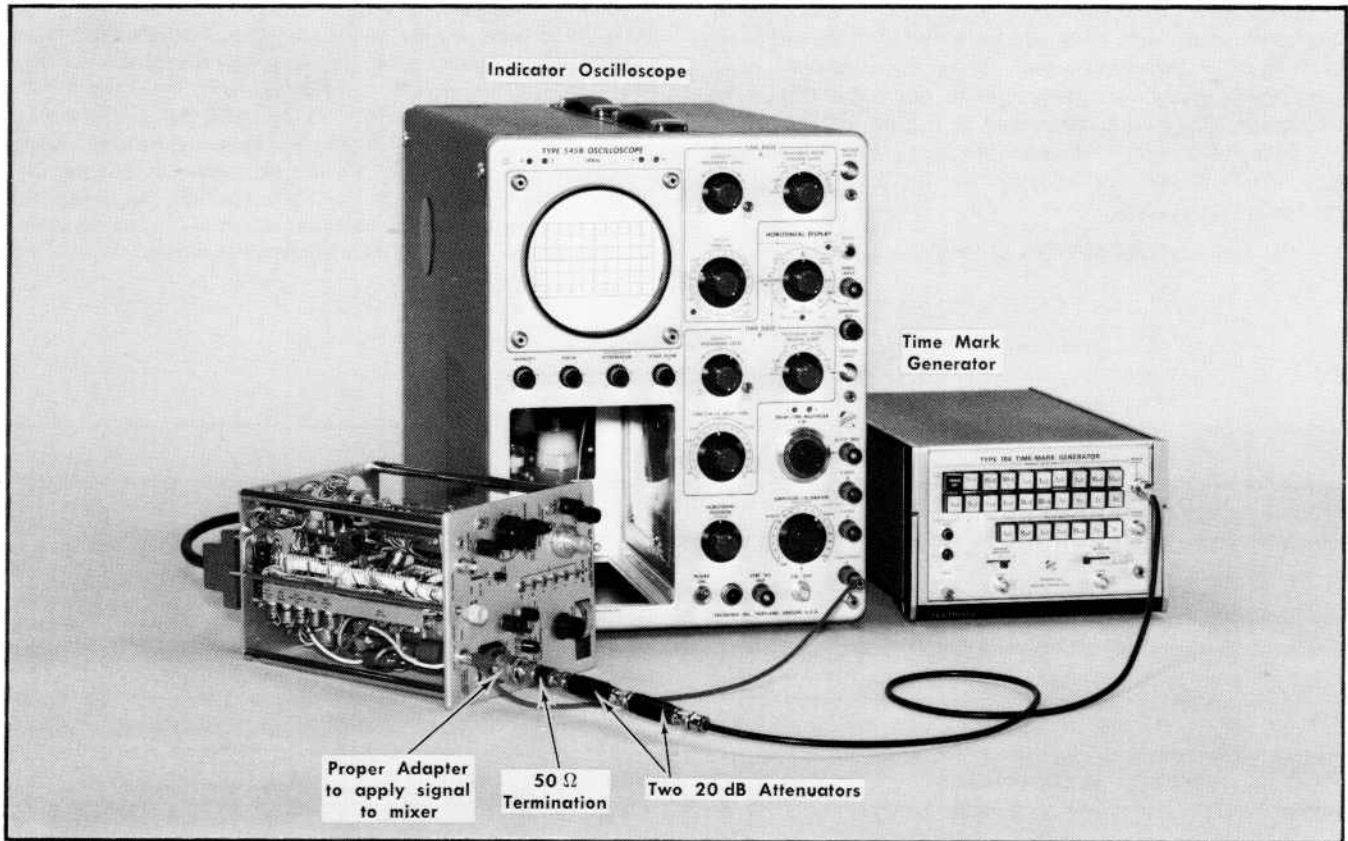

Fig. 5-11. Equipment setup to adjust and check kHz/CM dispersion accuracy (step 4).
a. The equipment setup for this step is shown in Fig. 5-11.
c. CHECK—the range of the IF CENTER FREQ control. Frequency range must equal or exceed + and — 2.5 MHz from its centered (000) position.